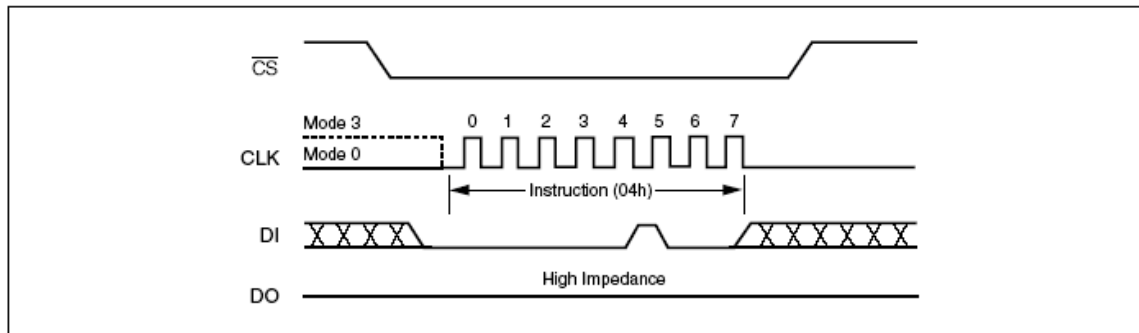

Figure 6. Write Disable Instruction Sequence Diagram
The Write Disable instruction (Figure 6) resets the Write Enable Latch (WEL) bit in the Status Register to a 0 or exit from OTP mode to normal mode. The Write Disable instruction is entered by driving Chip Select ($\overline{CS}$) low, shifting the instruction code "04h" into the DI pin and then driving Chip Select ($\overline{CS}$) high. Note that the WEL bit is automatically reset after Power-up and upon completion of the Write Status Register, Page Program, Sector Erase, Block Erase (BE) and Chip Erase instructions.